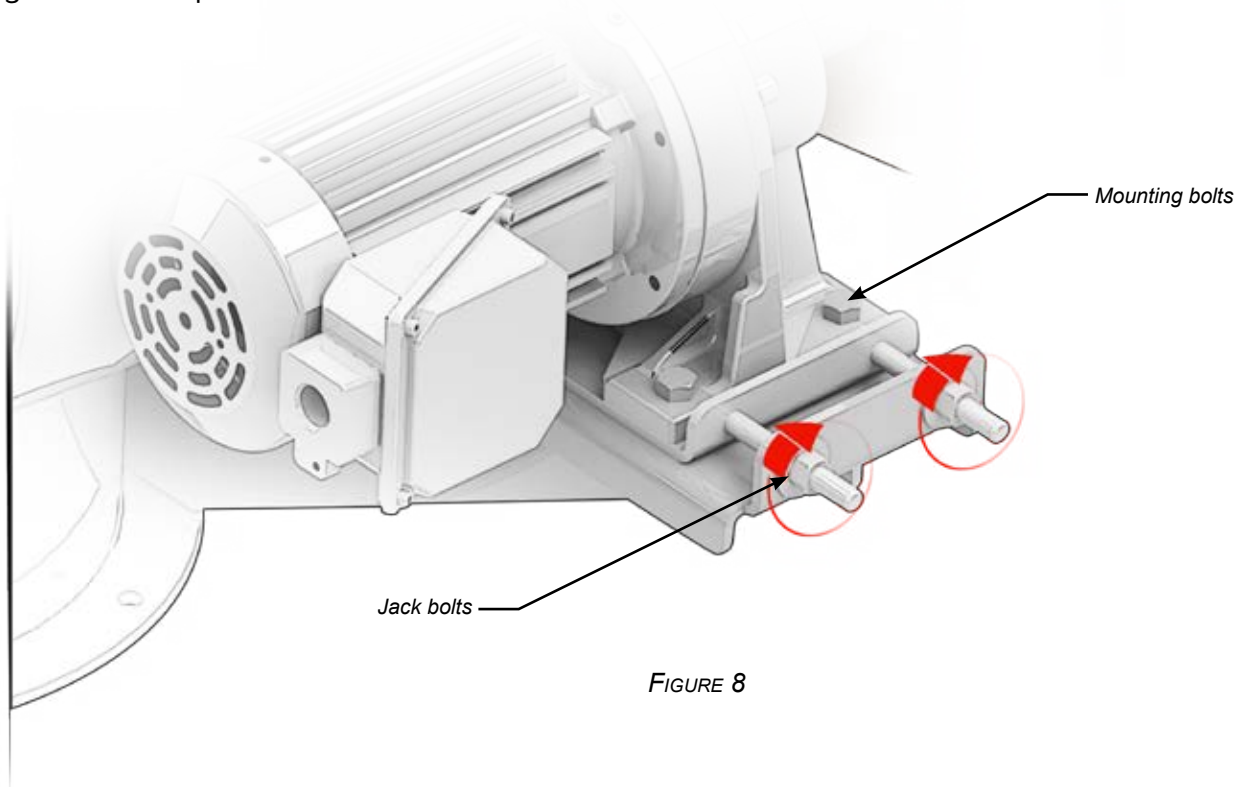

FIGURE 8
- d. Tighten the drive chain by turning the jack bolts clockwise (see Figure 8).